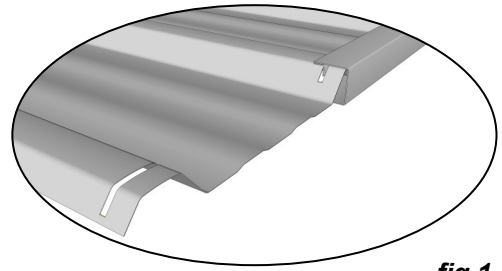

fig.1
- Slide door top and bottom channels on each end as shown in fig. 1